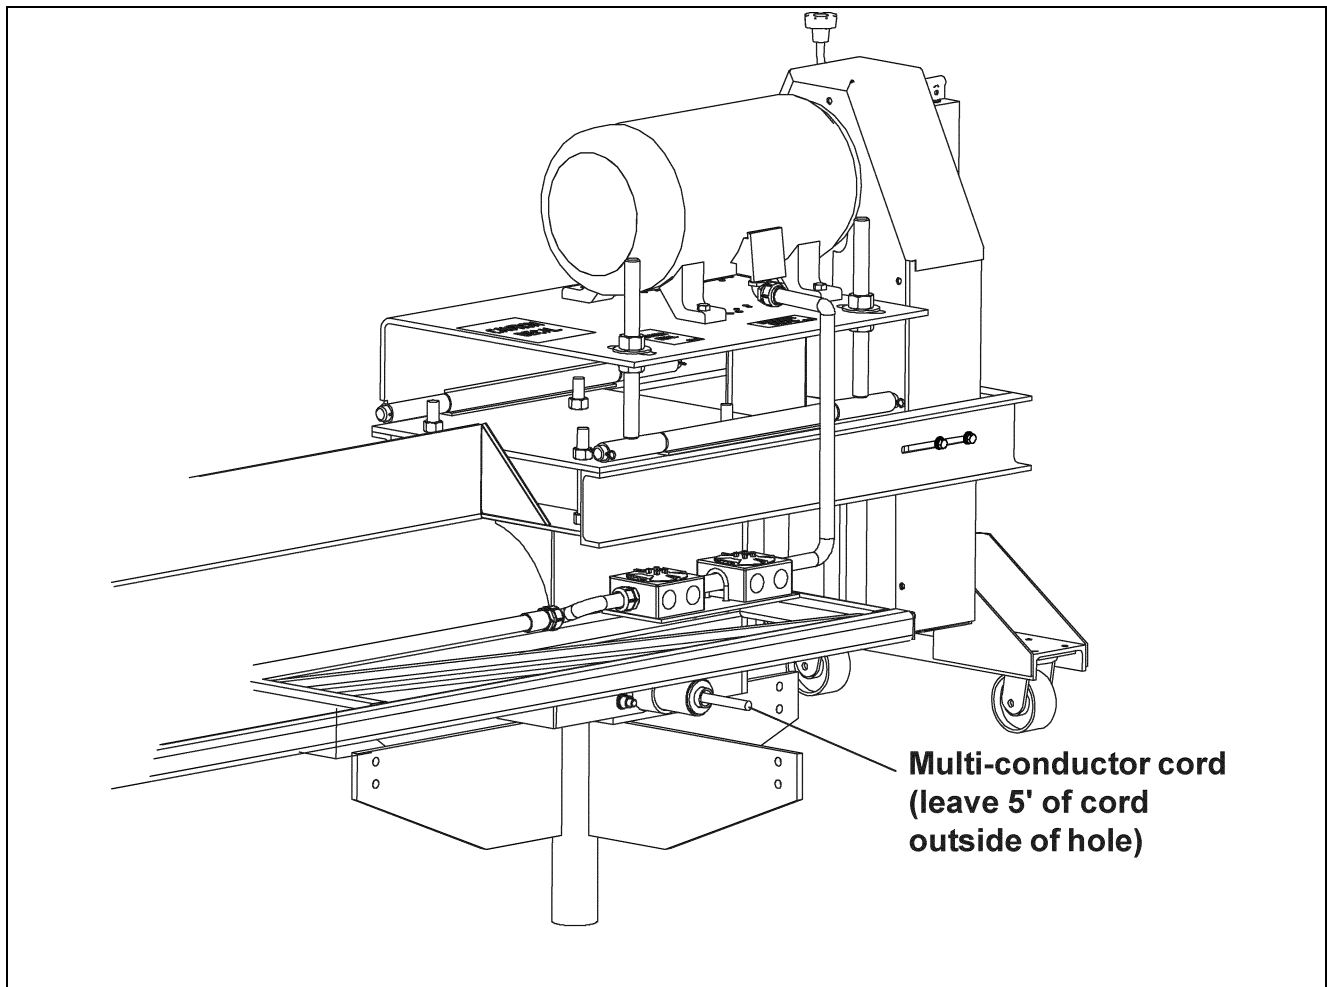

Figure 5AJ
2. Feed the multi-conductor cord through the hole in the back of the sweep head section leaving five feet (5') of cord outside the hole. (See Figure 5AJ)
3. Feed the power cord through the pivot tube. (See Figure 5AK)